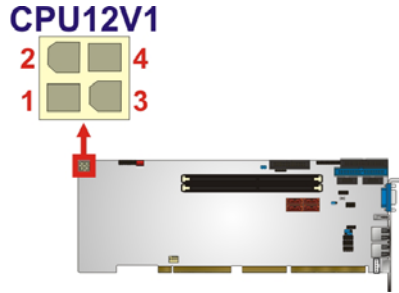

Figure 3-6: CPU Power Input Connector Location
- CN Location:** See **Figure 3-6**